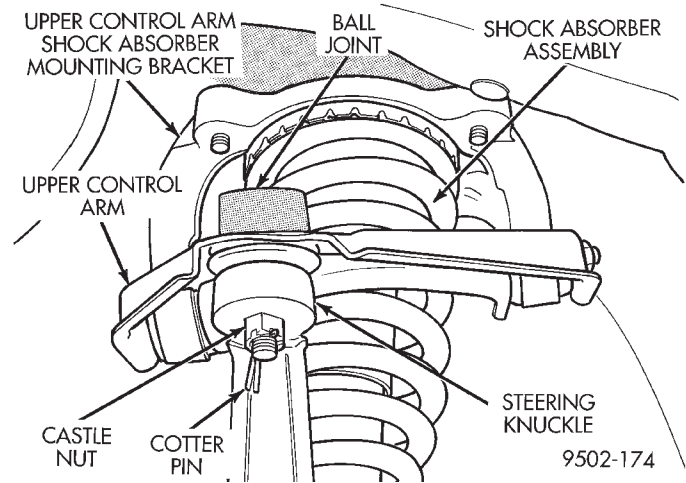

Fig. 70 Upper Ball Joint Attachment To Steering Knuckle
(16) Remove the cotter pin and nut (Fig. 70) from the upper ball joint stud to steering knuckle attachment.